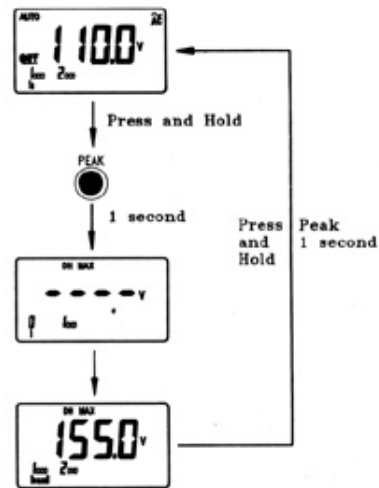

Figure 14. 1 ms Peak Hold Display
- 2) Press PEAK button momentarily to select PEAK+ measurement after entering the peak mode. The display shows "DH MAX" to indicate the PEAK +. See Figure 14.